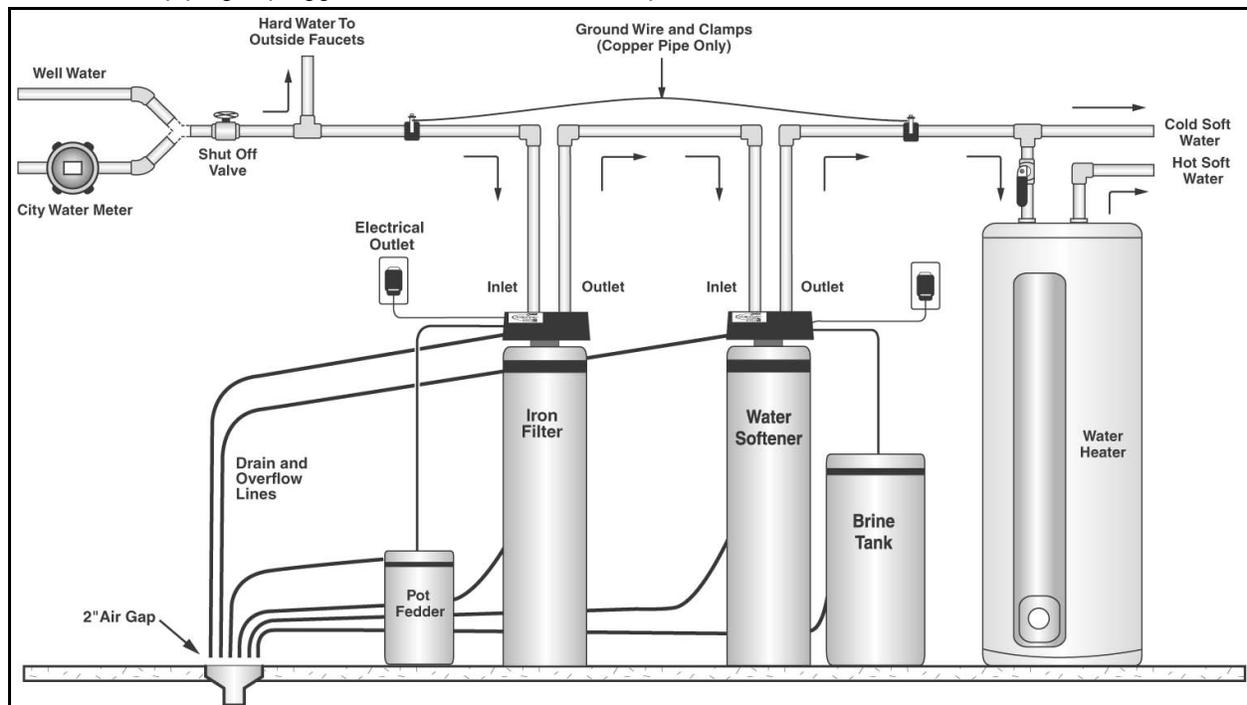

Figure 7: Iron Filter and Potassium Permanganate Feeder Placement
**Note:** The iron filter should be installed after the pressure tank or water meter and before the water heater or any water softener appliance, unless otherwise recommended. See Figure 7. A minimum 3/4-inch pipe is required for proper function of the filter. Examine the inlet piping to make sure the pipe is not plugged with lime or iron. If the piping is plugged, it must be cleaned or replaced.
- C. See Figure 7 for feeder placement.